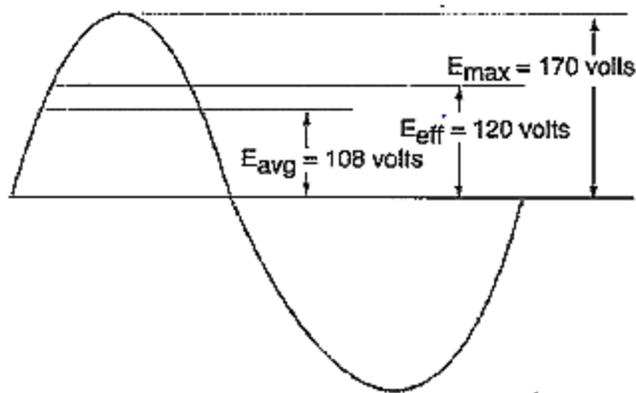

Figure 9.3: Values on a Sine Curve
- 9-21 Examples of AC values are shown in Figure 9.3. The maximum potential difference, E_{max} , is 170 volts. The effective and average values are calculated below.